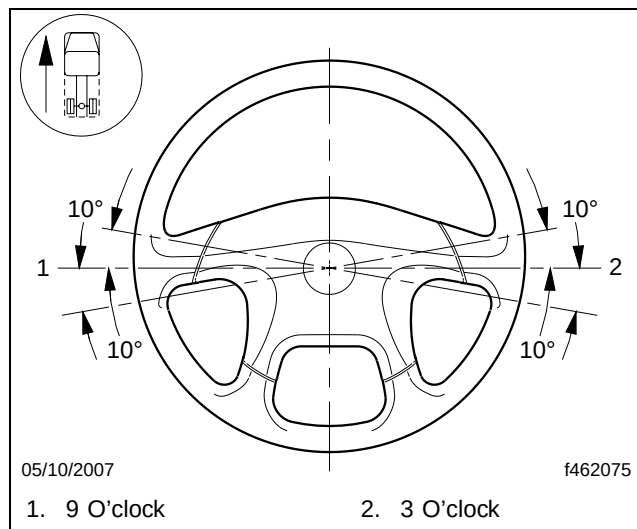

Fig. 13, Steering Wheel Centered
46. Make sure that the steering wheel is within 10 degrees of center as shown in **Fig. 13**. If it is not, remove and center the steering wheel.